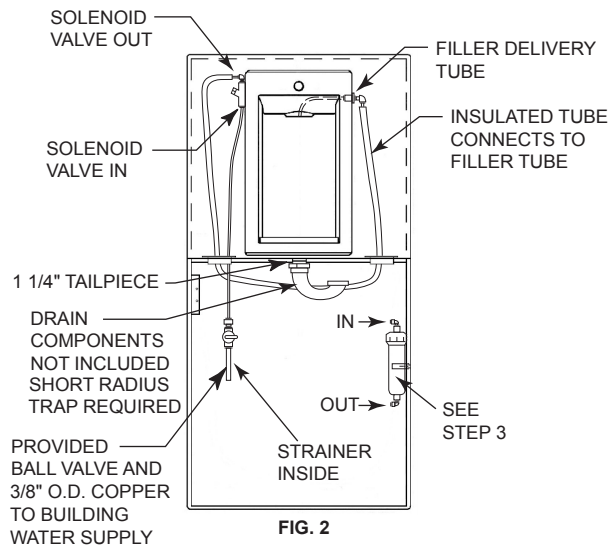

FIG. 2
- Ⓐ MOUNT FILTER CLIP TO FRAME (SEE FIG. 2)
- Ⓒ CUT WATER LINE FROM SOLENOID VALVE TO BOTTLE FILLER DELIVERY TUBE (SEE FIG. 2)